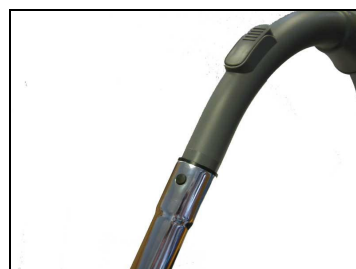

Fig 2
- Fit the handle to the wand connection (Fig 2).